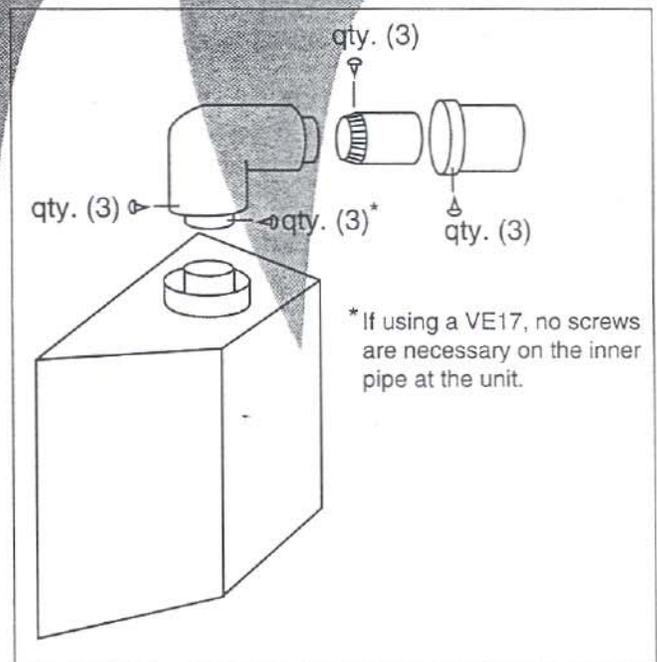

Figure 9
c. **Assembling Chimney Sections.** Figures 9 and 10 show how to install a typical vent system. Use only pipe supplied and listed for use with this appliance. See page three for a description of listed components. All inner flue and outer flue joints need 3 screws.